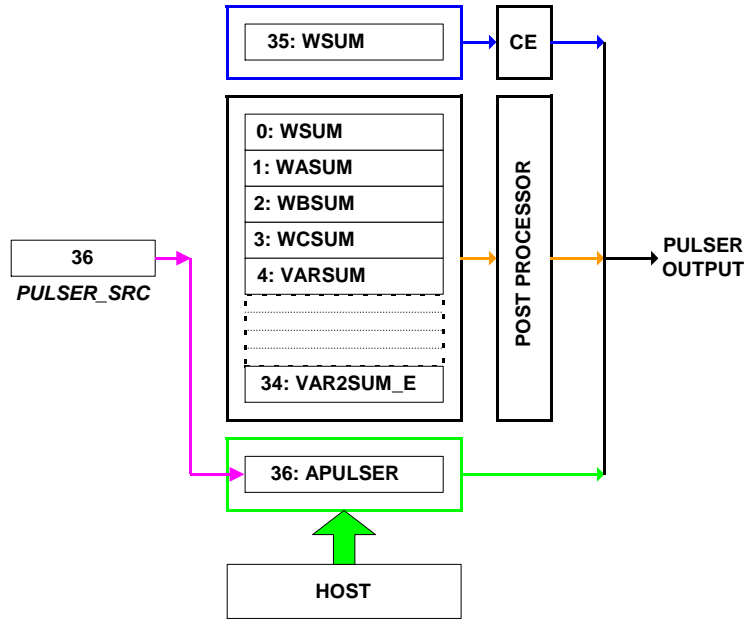

Figure 15: Pulse Generation via *APULSER* Selected in the *PULSER_SRC* Register
Figure 15 shows the registers that control the PULSEW, PULSER, PULSE3 and PULSE4 output pins if the corresponding *PULSE_SRCS* register contains the decimal value 36. This figure uses the *PULSER_SRC* 8-bit portion of the *PULSE_SRCS* register as an example: The internal pulse generation (CE) and the post-processor pulse generation are deselected, and the *APULSER* register acts as the pulse generation source. In this setting (external pulse generation), the host is responsible for updating the data in the *APULSER* register.